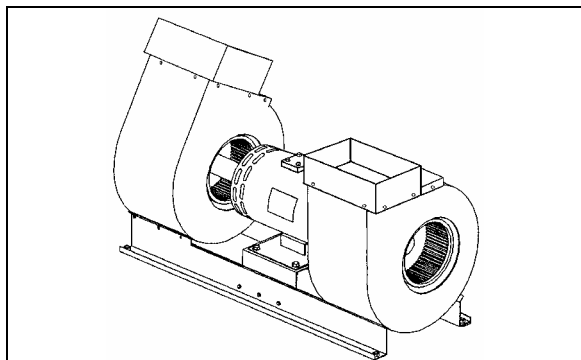

FIGURE 25: EVAPORATOR MOTOR ASSEMBLY 22228
6. From under the vehicle, remove the eight bolts fixing the double blower fan unit base. Remove the complete unit from the evaporator compartment (Figure 25).